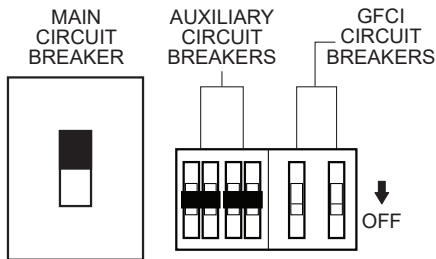

Figure 39. Main, Aux. and GFCI Circuit Breakers (OFF)
1. Place the **main, GFCI, and aux.** circuit breakers (Figure 39) in the **OFF** position prior to starting the engine.